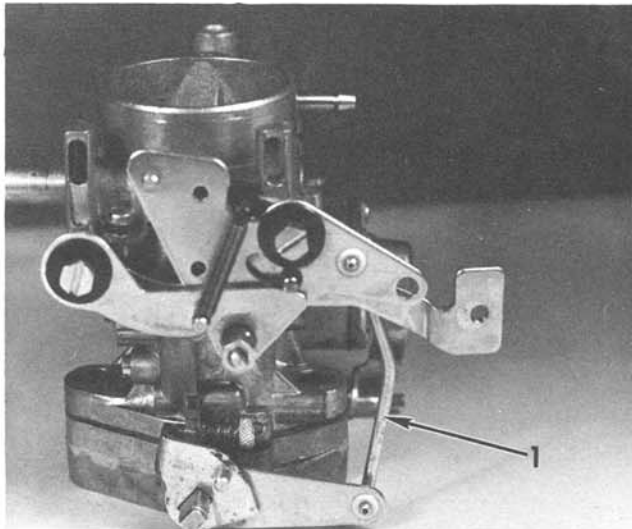

FIGURE 67. CHOKE PLATE CONNECTING LINK
a. Initial throttle opening adjustment is made by closing the choke plate to its full extent. Measure the initial throttle opening. This should be between 0.80 mm to 0.90 mm (.032" to .035"). To adjust, bend the connecting link (1) (Figure 67).